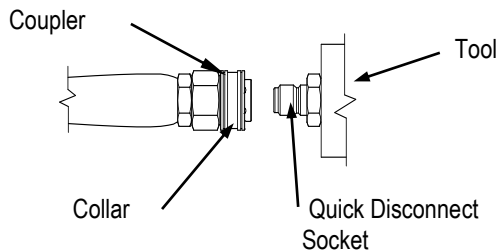

Figure 6a
- Pull quick connect collar back (Figure 6a).